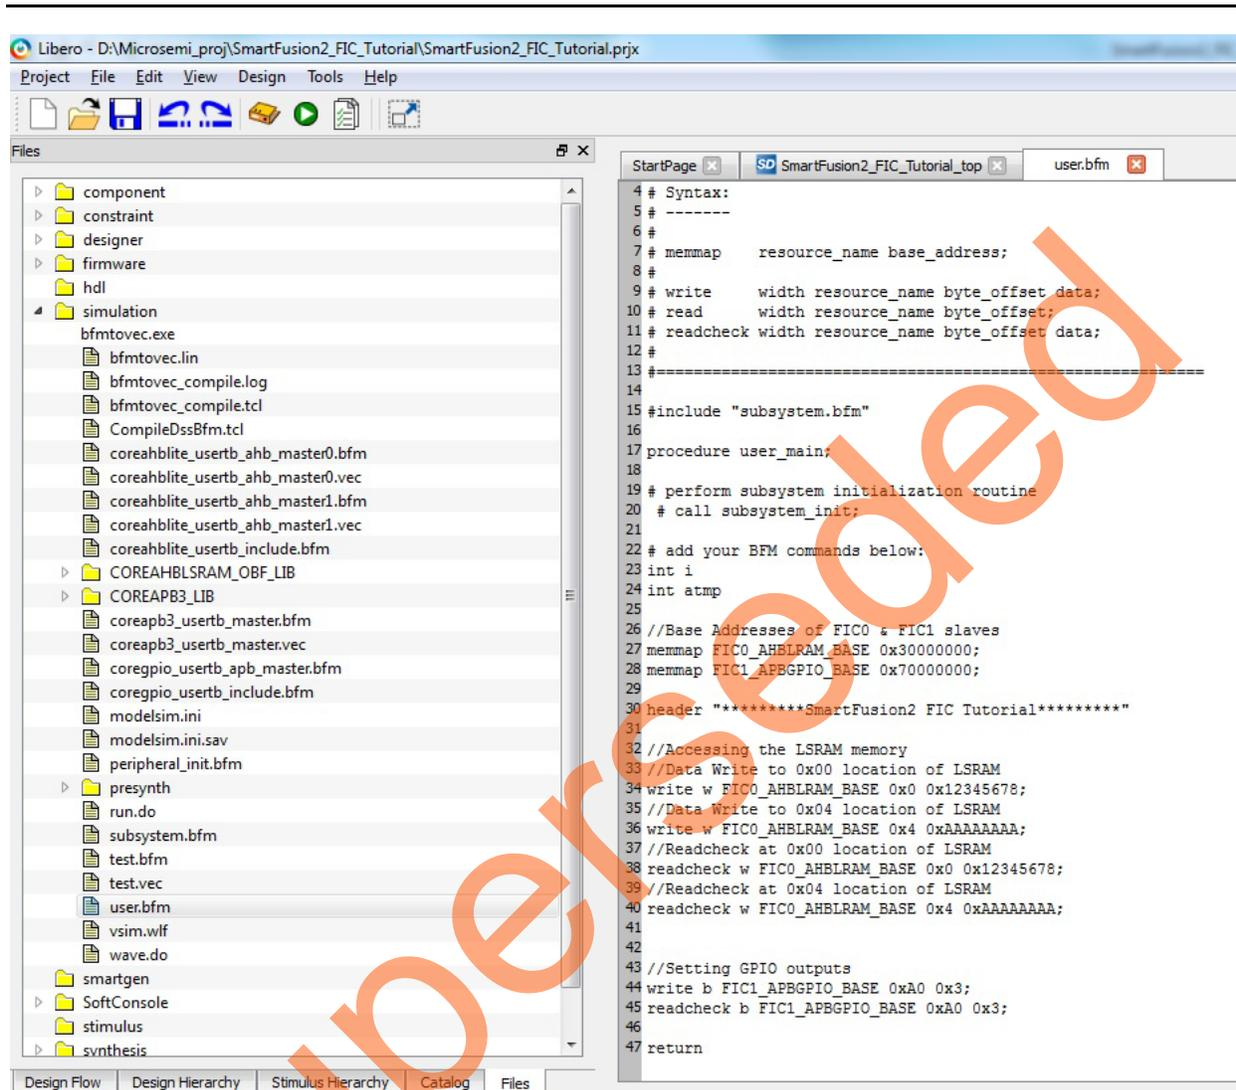

Figure 23 • user.bfm file
- After importing, double-click the user.bfm file under simulation folder. This opens the user.bfm file as a new tab in the project window, as shown in Figure 23.